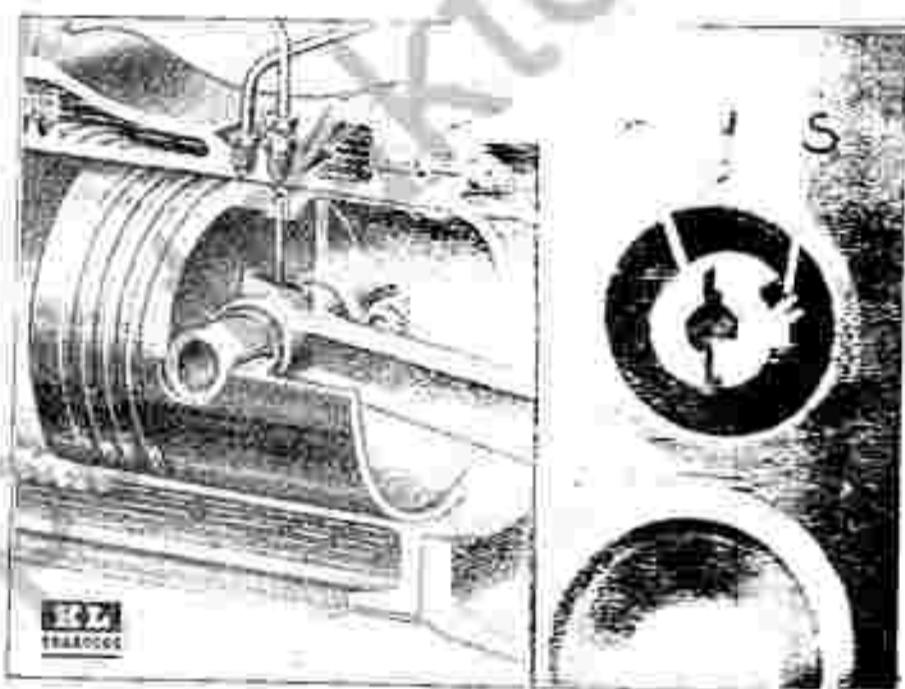

Fig. 22. Position of piston for priming
The compensating plunger (26) is mounted on the end of the regulating shaft (27) and is held in position by sleeves (8) and (9) in Fig. 15 and shown in detail in Fig. 22.
PRIMING WITH OIL - Oil must be pumped through the oil pipes until lubricating tanks are fully supplied. In order that the oil should reach the gudgeon pin and big end bearing during hand priming, set fuel lever in foremost position and turn the flywheel by cranking wheel, so that key (s), Fig. 22, in crankshaft shows to the rear. To ensure engine remaining in this position remove safety plug. Then fit crank, supplied to the pump shaft (21), Fig. 18, press into the lubricator and turn in a clockwise direction for 180 turns, at a speed not exceeding 60 turns a minute Fig. 23. Then turn twice in an anti-clockwise direction to disengage dog clutch and withdraw.